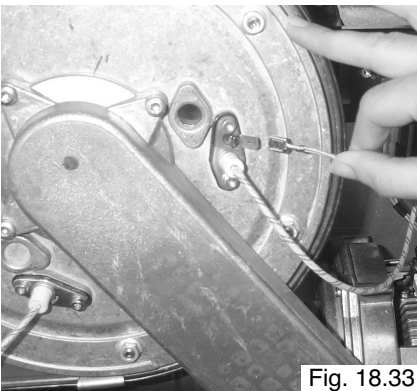

Fig. 18.33
2. Remove the earth cable from the electrode (Fig. 18.33);